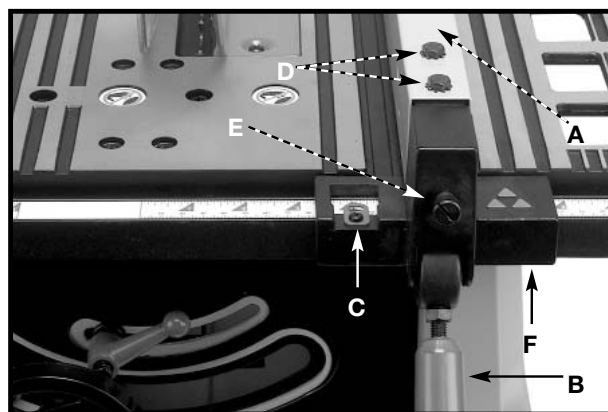

Fig. 35
1. To move the rip fence (A) Fig. 35 along the table, lift up the fence locking lever (B), slide the fence to the desired location on the table, and push down the fence locking lever (B).
2. The pointer indicates the distance from the fence to the saw blade. If an adjustment is required, loosen the screw (C) Fig. 35 and adjust.
4. Position the fence next to the miter gauge slot (Fig. 35). Clamp the fence to the table by pushing the locking lever (B) down. The edge of the fence should be parallel to the miter gauge slot.
5. If an adjustment is necessary, loosen the two screws (D) Fig. 35, and lift the locking lever (B). While holding the fence bracket (F) firmly toward the front of the saw, move the rear of the fence (A) until it is parallel with the miter gauge slot. Tighten two screws (D) and push locking lever down (B).
6. Adjust the clamping action of the fence (A) Fig. 35 by lifting the locking lever (B) and turning the screw (E) clockwise to increase, or counterclockwise to decrease the clamping action of the fence.